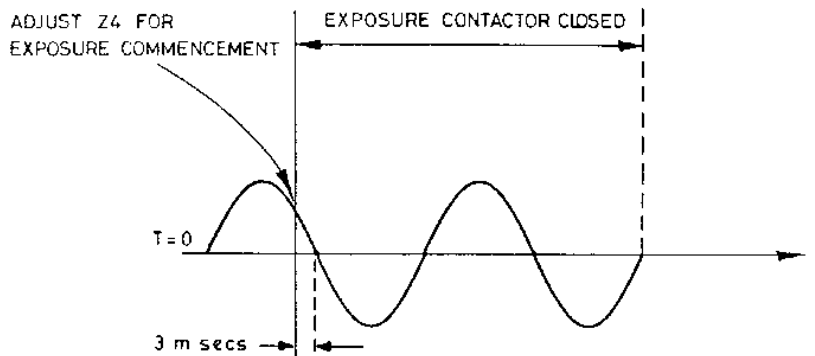

Fig 48 Specimen trace for Adjustment of Z4
- d. Take several exposures and compare the CRO trace with that given in Fig 48. Adjust Z4 in Timer Chassis T3 so that the exposure commences approximately 3 m.secs before the waveform first passes through the zero volts line.
(See Fig 48 overleaf)